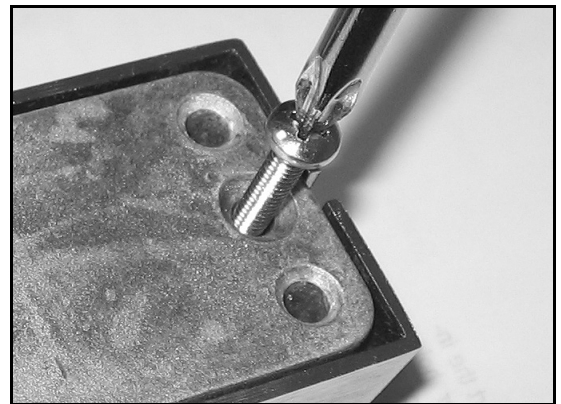

Fig. 5: The rear Phillips screw on the locks or unlocks the battery cover.
5. Loosen the #8-32 Phillips pan head screw located on the rear side of the base plate at the bottom of the lock (see Fig. 5). Turn counter-clockwise until the battery cover slides off the housing. Do not remove the screw completely.